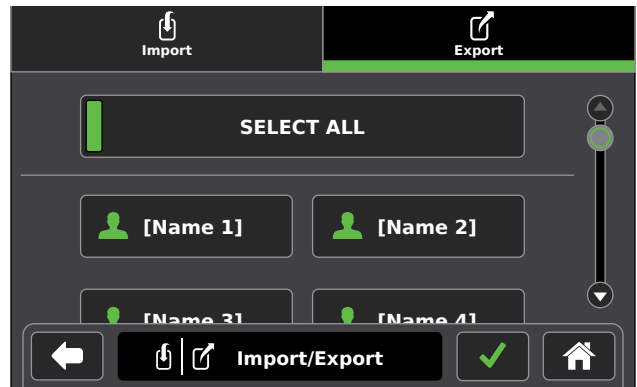

Figure 16 – Import/Export Screen
3. Touch the **SELECT ALL** button or touch the individual preset(s) to import/export (Figure 16).